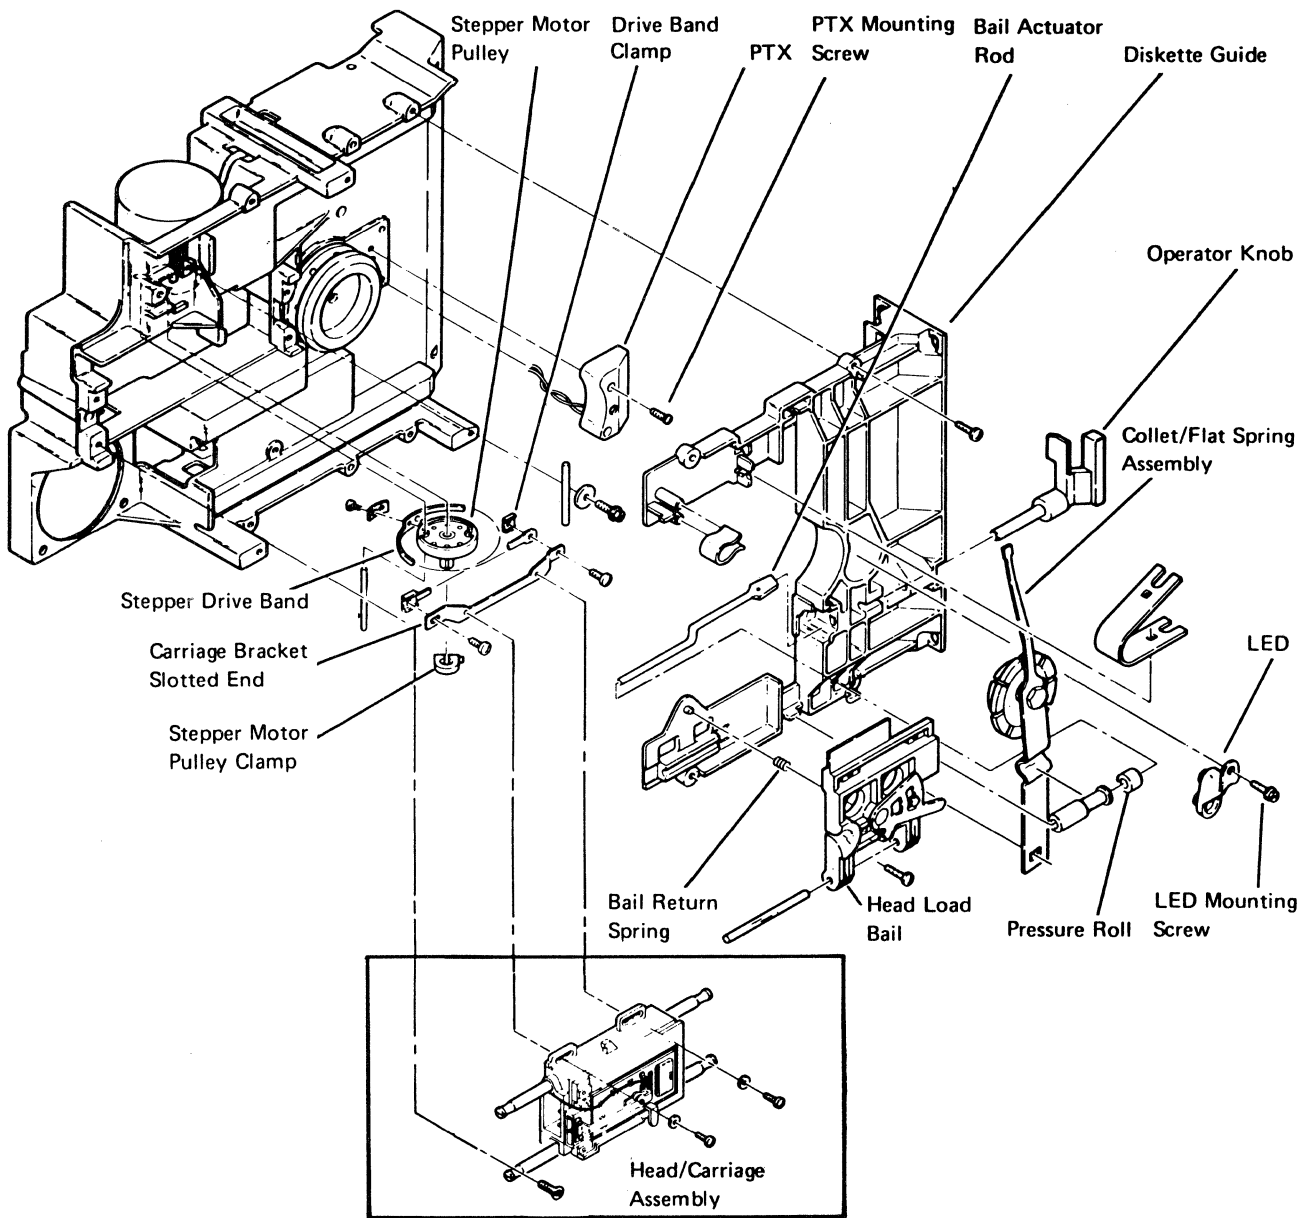

Figure E-9 (Part 1 of 5). Diskette Drive Parts
E.1.4 Diskette Drive Parts (Figure E-9)